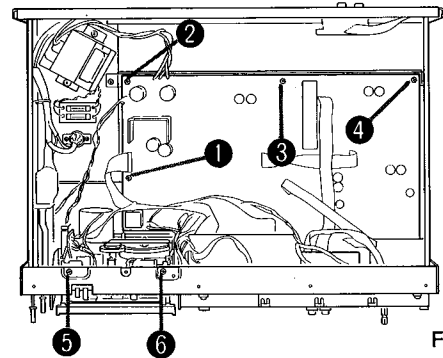
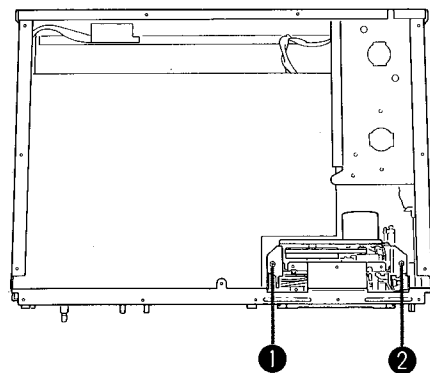

Fig. 5
Fig. 7
3. Remove the screws 5 and 6 in Fig. 5 and 1 and 2 in Fig. 7 and then remove the cassette tape recorder mechanical assembly backward.
\* When mounting, tighten screws 1 and 2 in Fig. 7 first and then 5 and 6 in Fig. 5.